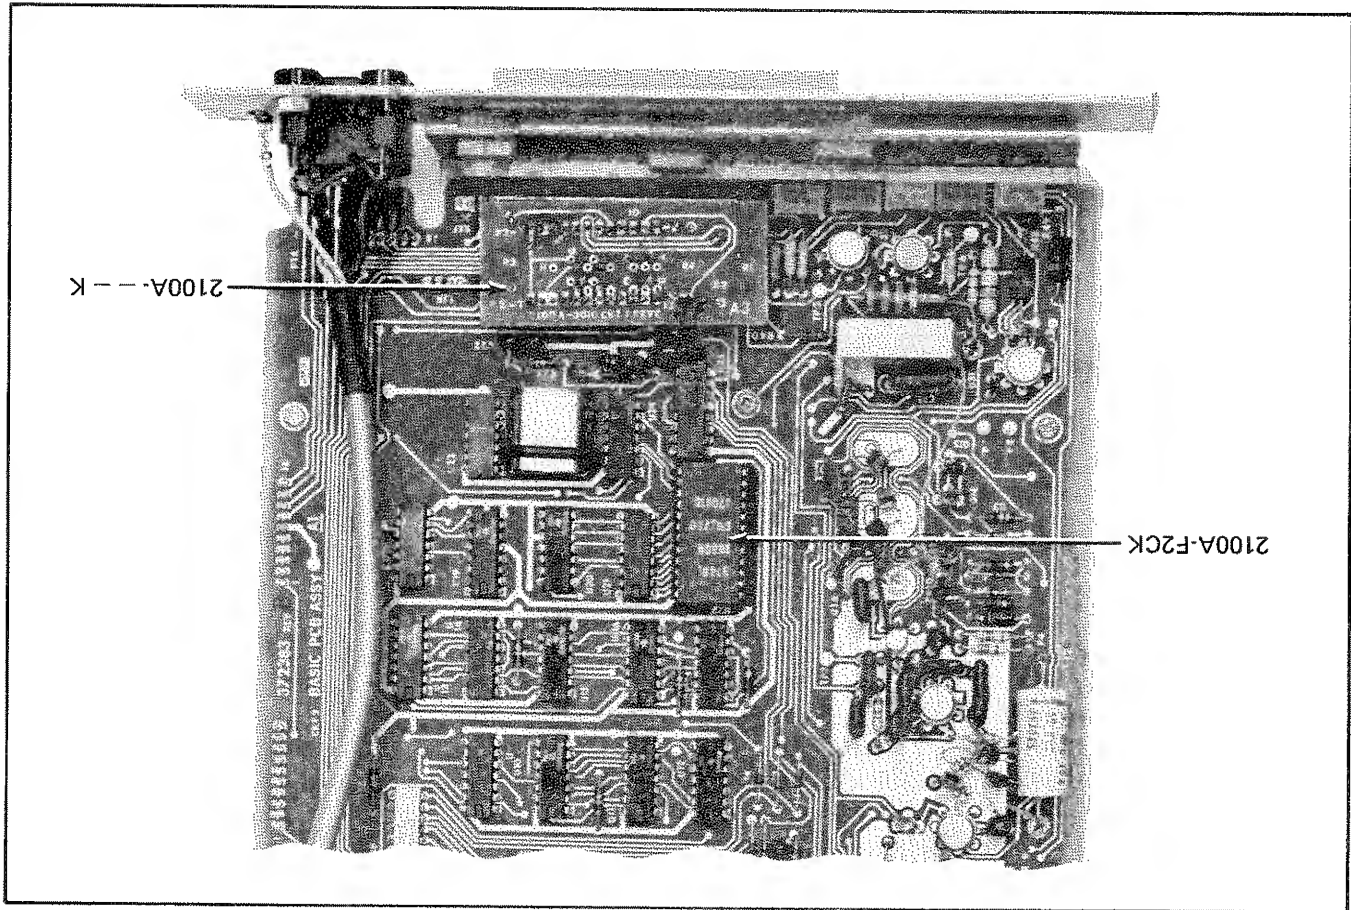

Figure 6-5. 2100A---K AND F2CK LOCATION
- c. Align the new ROM as shown in Figure 6-5 and press it into place in the IC socket; pin number one should be at the upper left of the ROM as viewed from the rear of the instrument.
- 6-21. The 2100A-03 or 2100A-10 configured for a particular type thermocouple can be changed to accommodate a new type thermocouple by installing a thermocouple type conversion kit. Each specific conversion kit is identified by filling in the two blanks in the (2100A - -- K) model identification. That is, a kit to accommodate a T type thermocouple in an instrument that displays the temperature in degrees Fahrenheit would be 2100A-TFK. The letter placed in the first blank identifies the thermocouple type (J, K, E, T, R, or S); the letter in the second blank indicates the temperature unit, degrees Celsius (C) or degrees Fahrenheit (F).
- d. Locate and remove the old thermocouple type PCB (see Figure 6-5). Use both hands, one at each end of the type pcb, to pull the pcb straight up from the Basic PCB Assembly.
- e. Position the new type pcb as indicated in Figure 6-5, i.e., upside down as viewed from the rear of the instrument.